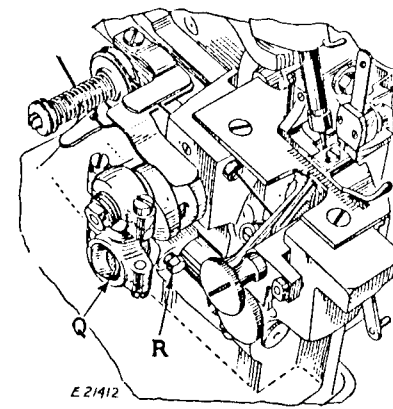

Fig. 45
While placing the rotary shaft crank on the end of the shaft, enter the end of ball stud (A) into the hole in the right hand looper lever. Then tighten screw (B). The extent of the insertion of the stud into the hole controls the stroke of the loopers, as explained on page 25, Fig. 45. The rotary shaft crank (C) should be located tightly up against the rotary shaft bushing, but not so tight as to bind. Turn the shaft until the slot in the end of the shaft is in line with the second screw hole (2) in the rotary shaft crank, then insert the pointed timing screw and firmly tighten it in the slot of the shaft and tighten set screw (1).
A variation in the amount of the looper motion can be obtained by adjusting the ball stud (Q, Fig. 45). To increase this motion, loosen the set screw (R, Fig. 45) in the looper lever and move the ball stud (Q) inwardly or toward the looper lever. To decrease the motion, move the ball stud outwardly or away from the looper lever. After the desired motion has been obtained, securely tighten the set screw.